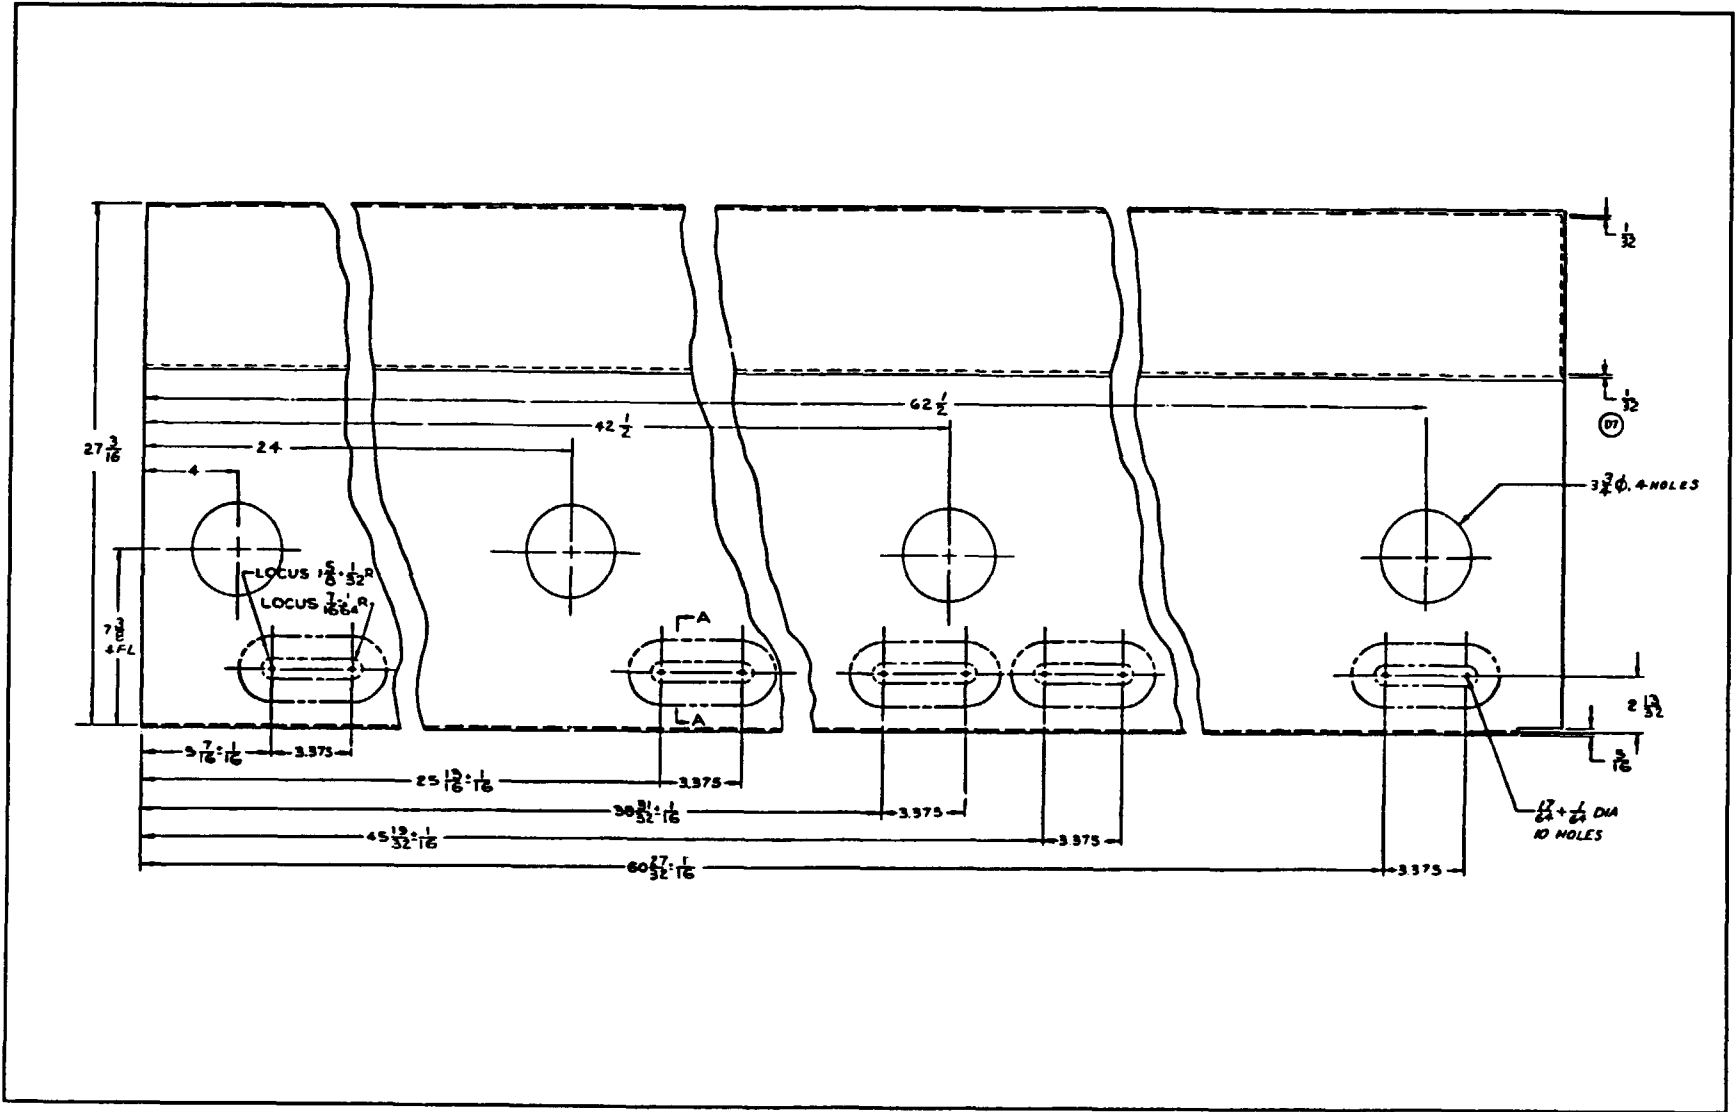
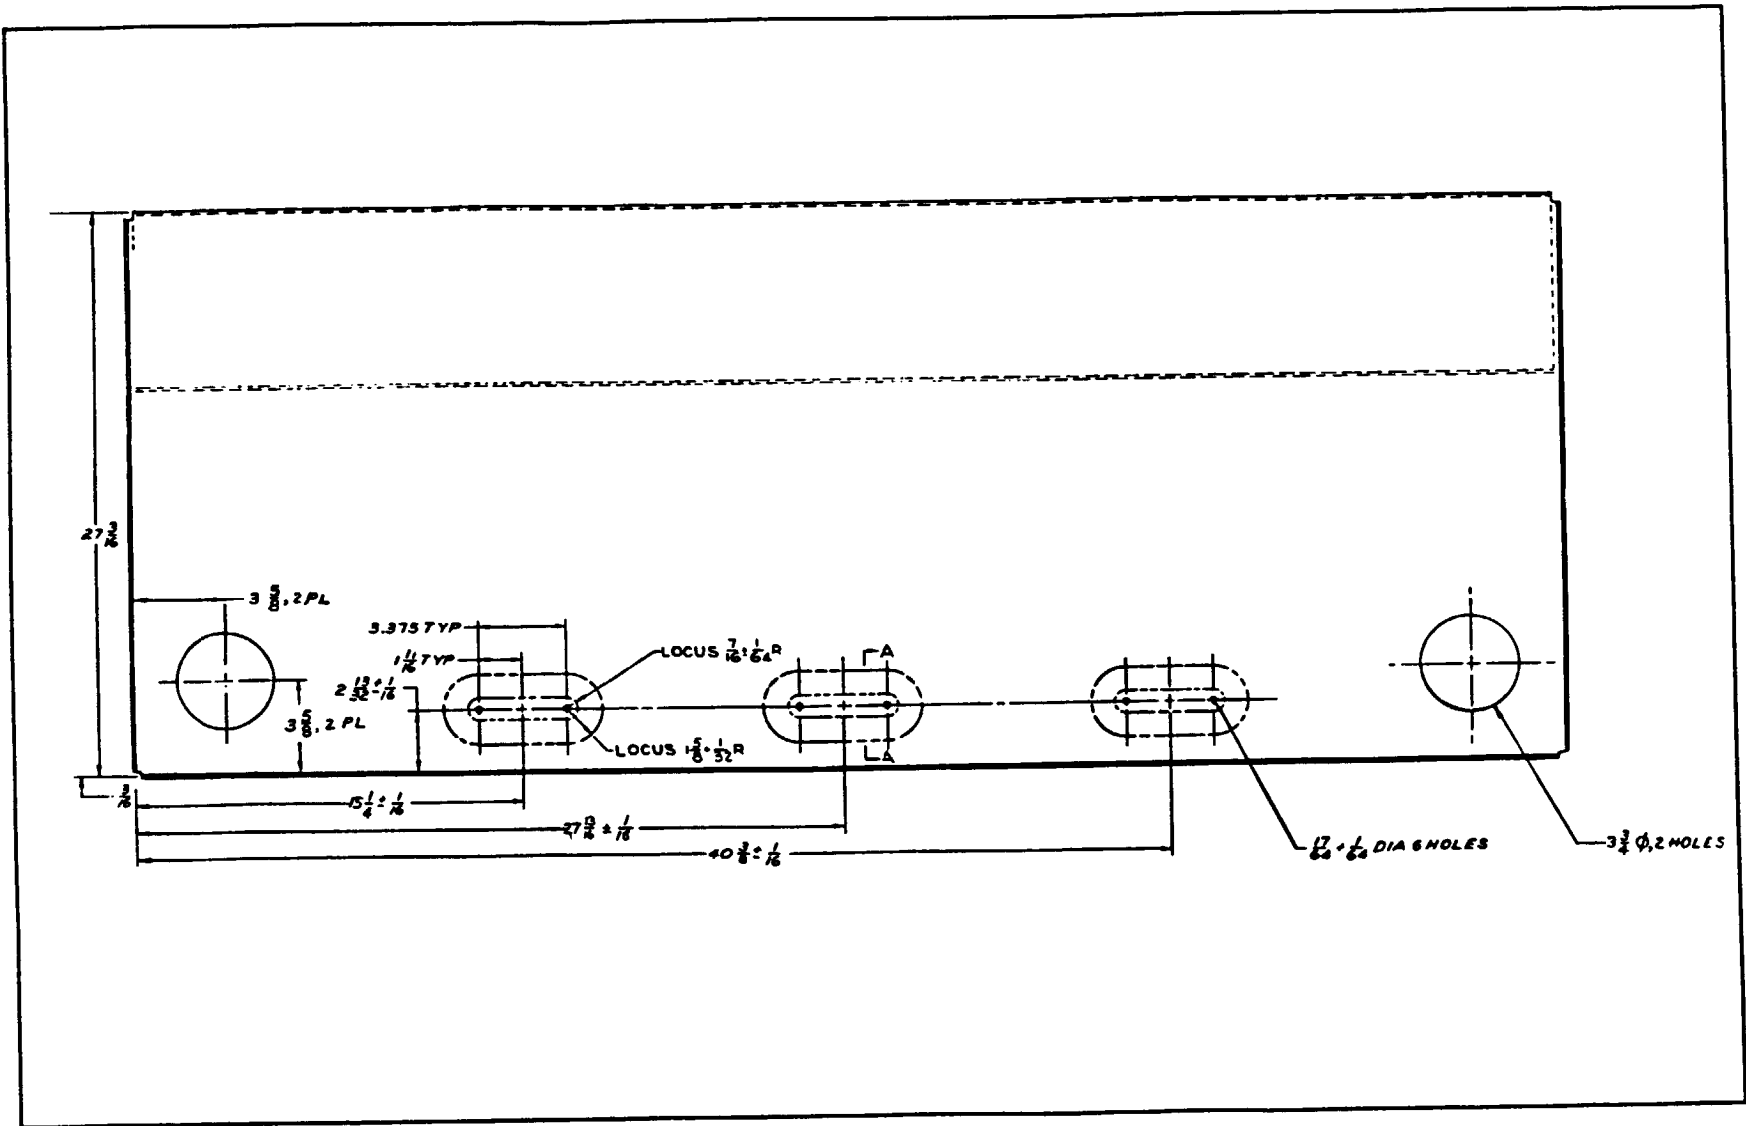
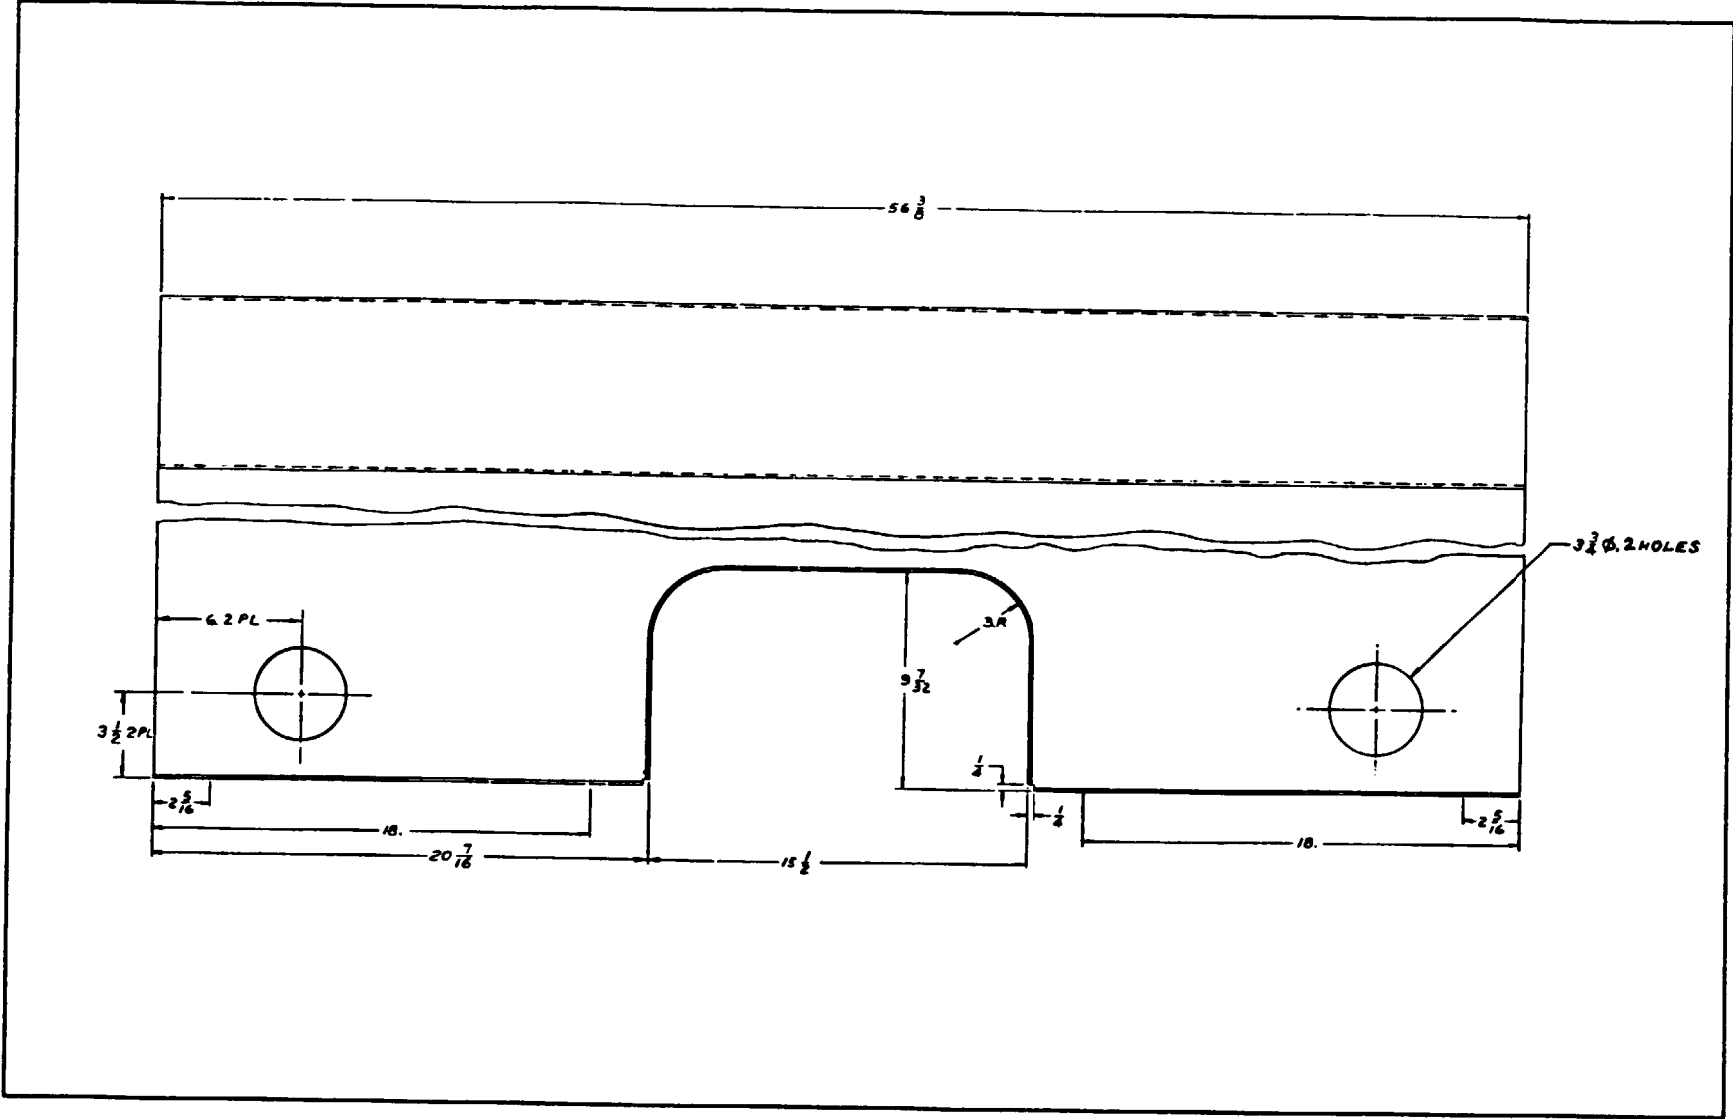
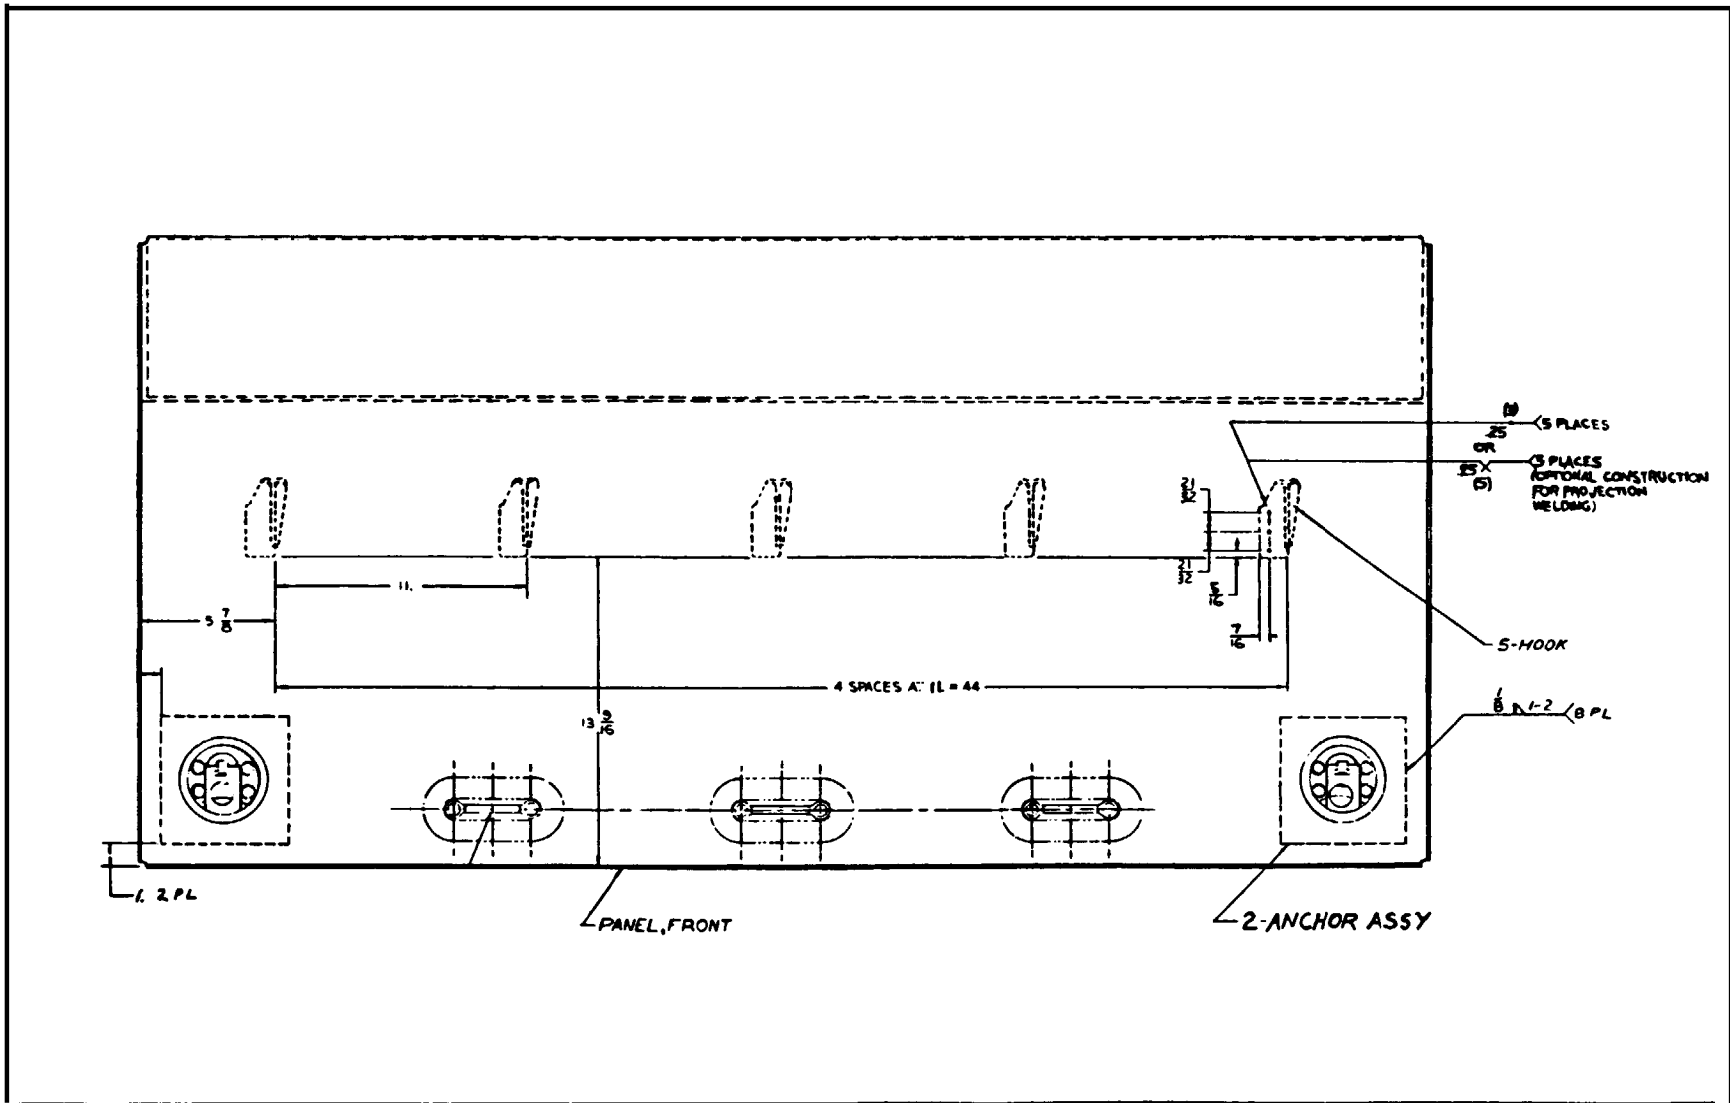

Figure 20. M332 Trailer side panel, hole locations
Figure 21. M332 Traller Front Panel hole locations
Figure 22. M332 Trailer gate panel, hole locations
Figure 23. M332 panel assembly side
- (1) Using template provided in kit, scribe location of four anchors each on left and right side panels (figure 20, two on front panel (figure 21), and two on gate panel (figure 22).
- (2) Using hole saw, cut out 12 anchor holes. Trim rough edge of holes.
- (3) Arc weld 12 anchors using fillet welds (figure 23, and 24).
- (4) Clean, prime, and paint in accordance with TM 43-0139.